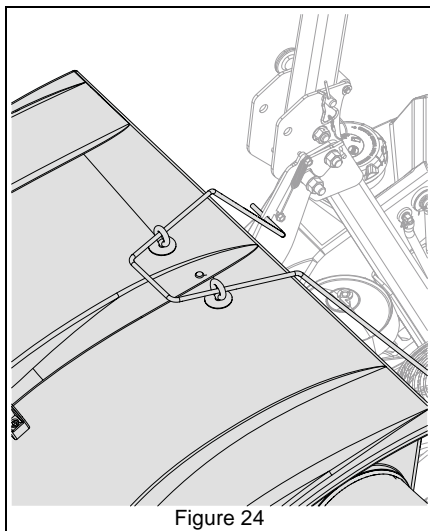

Figure 24
2. Route the untied end of rope through the two eye bolts. See Figure 24.